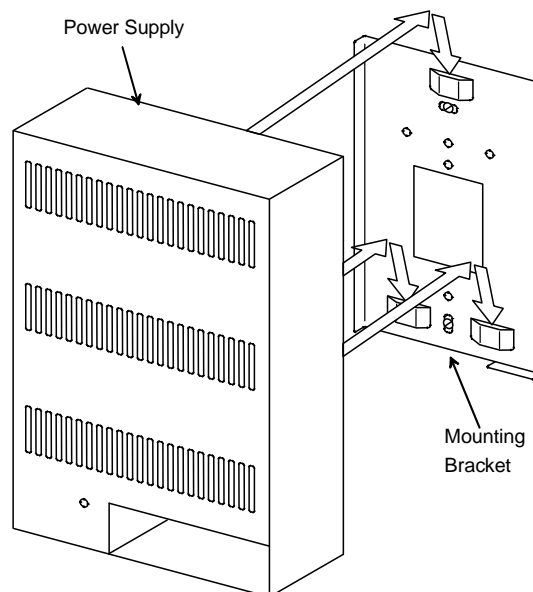

Figure 3. Mounting the Power Supply
3. Using Figure 3 as a guide, mount the power supply onto the mounting bracket.